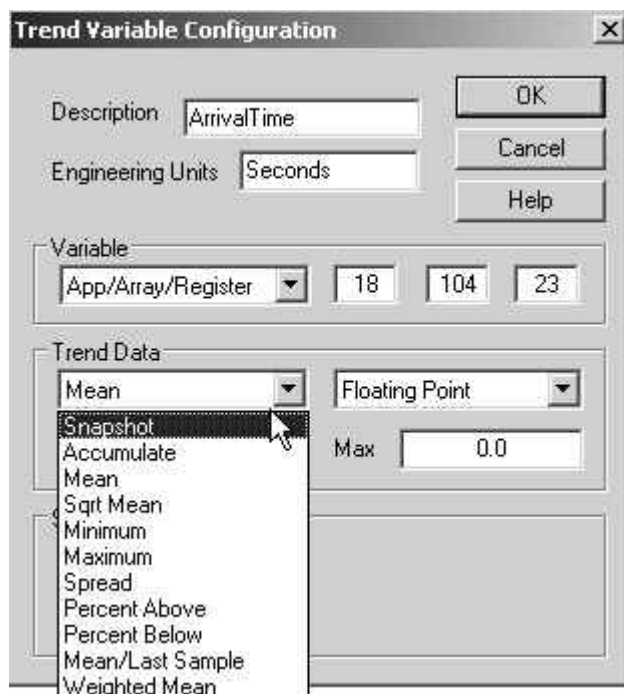

Figure 3–7 Trend Variable Configuration – Snapshot
- 7) The arrival time needs to be a static number that is not averaged so that the data will reflect the correct amount of time it takes for the plunger to arrive on each cycle. The arrival time is displayed in the Plunger Statistics in hh:mm:ss format but is actually kept in seconds. As such, the appropriate engineering units are seconds. The change that is necessary to ensure that the user records the arrival time correctly in the trend file is located in the Trend Data section. The user will need to change how the data is recorded from Mean to Snapshot (see Figure 3–7). This means that when the Log Period occurs, this value will take a snapshot of the data value for the defined register and log that value rather than the average it is recording for the other four variables.